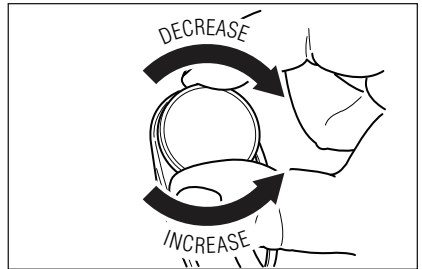

Figure 2. Stroke Adjustment
- Adjust the depth of cut by turning the stroke adjuster. See Figure 2. Turn the adjuster clockwise to decrease the stroke or counter-clockwise to increase the stroke. The greater the stroke, the wider the line will be that is etched into the material.